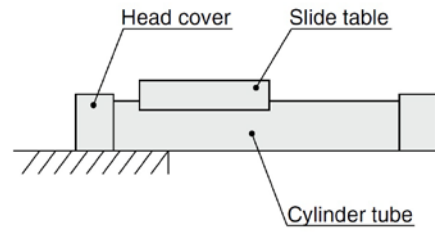

Fig. 5: Cantilever mounting
- Contact SMC for cantilever mounting as shown in Fig. 5. It may cause operation failure with the body deflected.